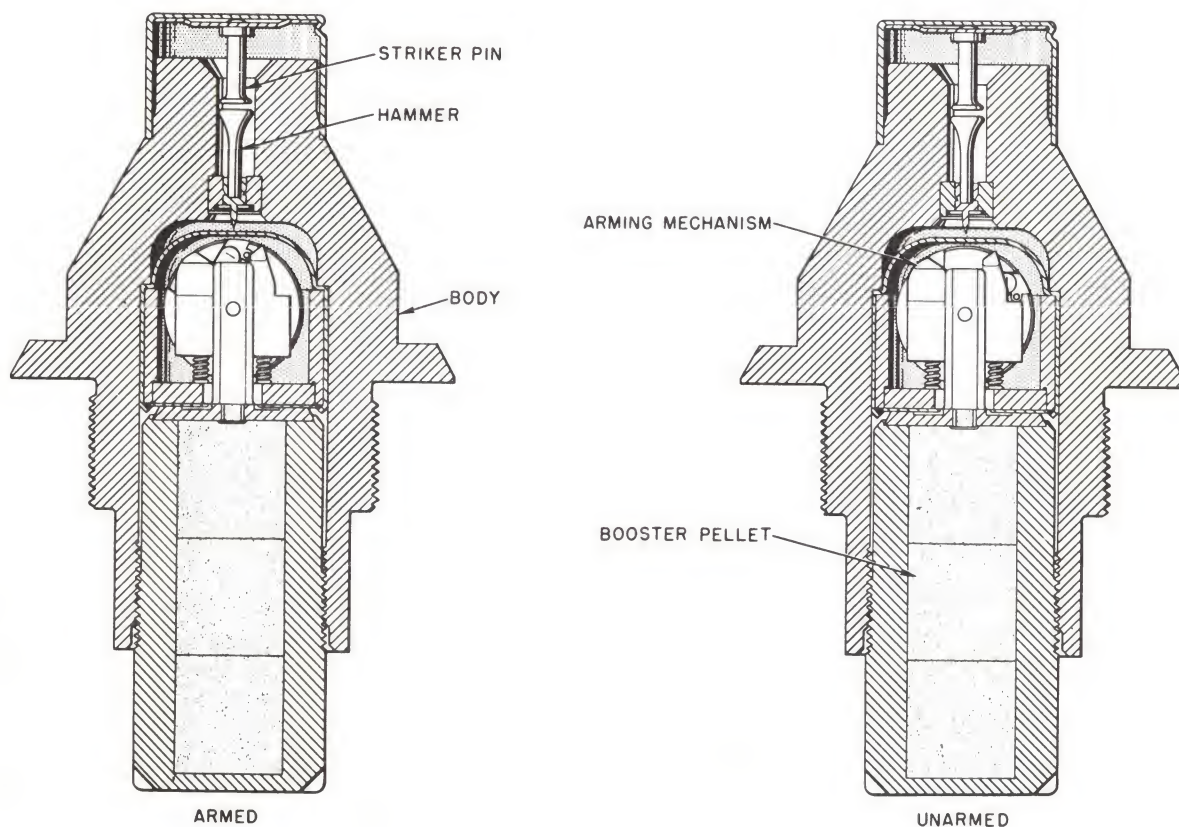

Figure 10 - Fuze Mk 188 Mod 0 (PD), Unarmed and Armed.
FUZE MK 188 MOD 0 (PD). The Mk 188 Mod 0 PD fuze may be attached to the nose of the 5.0-inch Rocket Heads Mk 32 Mod 0 and Mk 24 Mod 0. The fuze, unarmed and armed, is shown in figure 10. With ZUNI launched at 550 knots, the fuze will arm on acceleration or a combination of acceleration and deceleration at distances of 1000 to 2000 feet. It functions on a minimum of target thickness of 0.016-inch-thick 24ST aluminum. If a rocket is accidentally fired on the deck of an aircraft carrier, the fuze will not arm within the length of the carrier; therefore, the fuze is carrier-safe.
body. A plastic hammer and a stab-action firing pin are supported by an anti-setback washer. The explosive train is contained in an unbalanced rotor and consists of a sensitive primer and a detonator. The rotor is held in its unarmed position by an acceleration-operated, spring-controlled setback weight. An acceleration of 13 to 15 g moves the setback weight aft, causing the unbalanced rotor to start turning toward the armed position, figure 10. If the force is a transient one, such as occurs during jolt testing, dropping, or transporting, the setback weight will immediately return